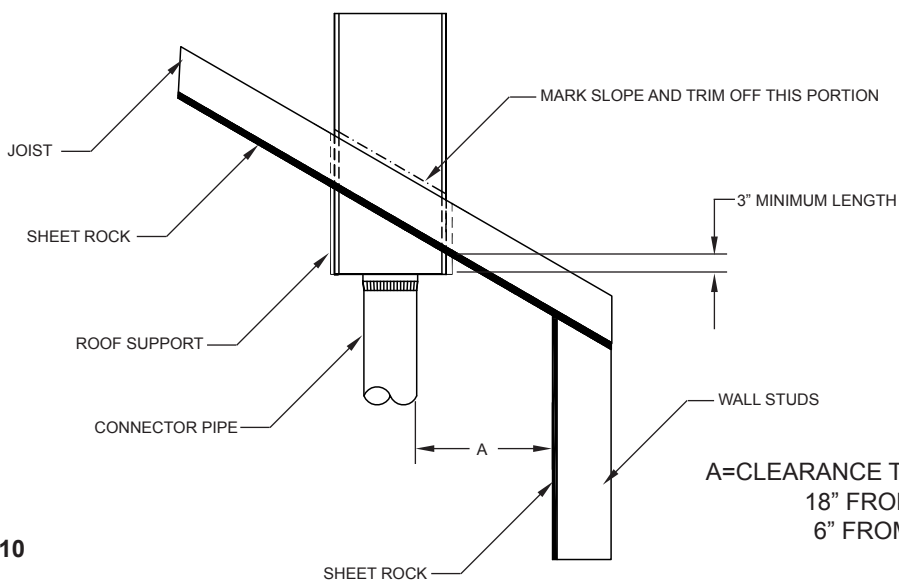

FIG. 10
3. Insert SPBCCS into framed opening so that the SPBCCS extends a MINIMUM of three (3) inches below the finished ceiling on the lower side of the installation.
4. With SPBCCS properly located, mark roof slope on the roof support (See **FIG. 10**.), Remove from opening and trim off excess metal.
5. Reinsert SPBCCS and secure in position using a minimum 1" roofing nail, four (4) each per side.